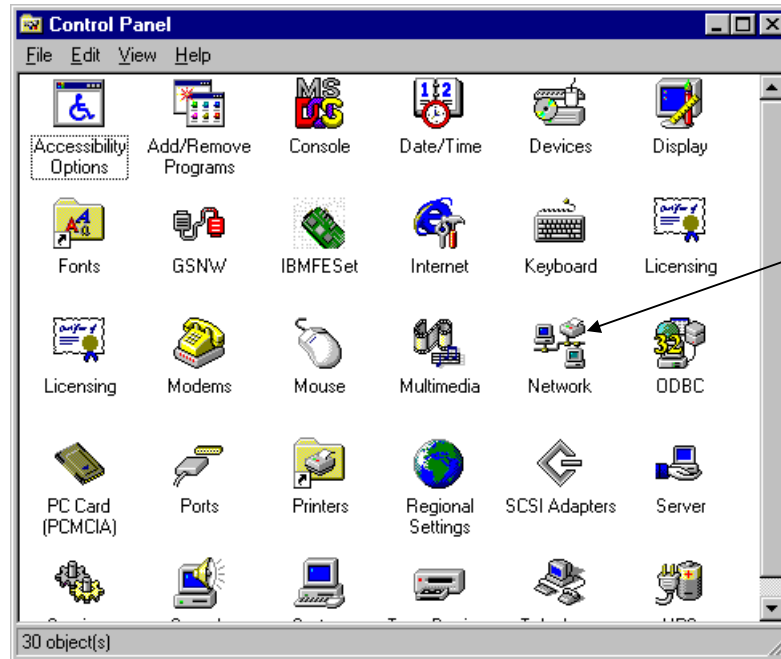

Figure 9-10. Invoking Network Configuration
1. From the Windows NT control panel, click the Network icon (Figure 9-10).